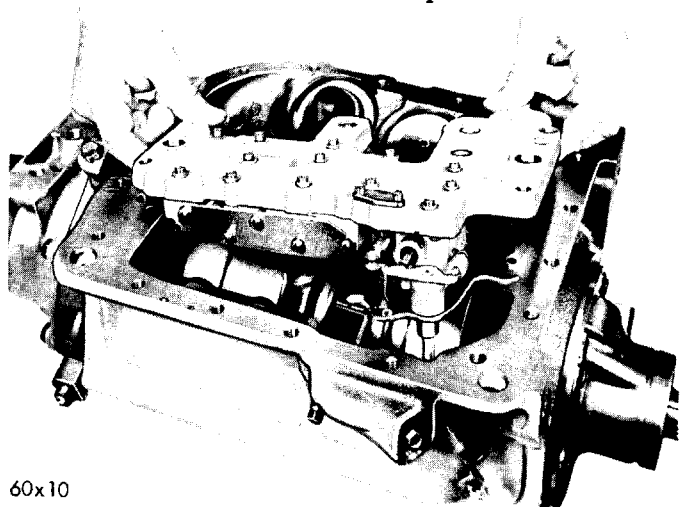

Fig. 33—Removal of the Valve Body Assembly
(5) Remove the transfer plate bolts and remove the valve body assembly from the transmission Figure 33. Mating surfaces are machined: Use extreme care so as not to damage these surfaces. Place valve body in stand, Tool C-3528.
(6) Remove the accumulator piston spring.